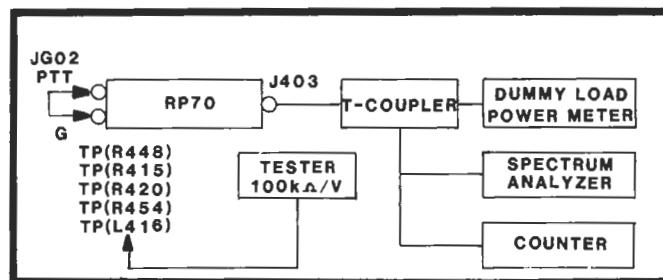

FIGURE 8. TX TEST SETUP
1. Connect the test equipment as shown in Figure 8. (Remove the coaxial cable which goes to the power stage).
*NOTE: J403 is the TX Pre-Driver output jack in Figure 8.*